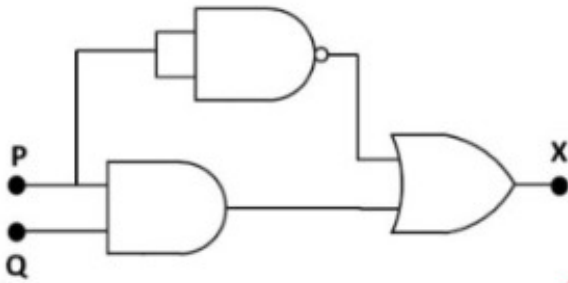

Fig. 3.16
- (A)  $x + z + xy$
- (B)  $(x + y)(x + z)$
- (C)  $x + xy + yz$
- (D)  $x + xz + xy$
29. Which one of the following options is CORRECT for the given circuit in Fig. 3.16? (GATE PHYSICS 2023)